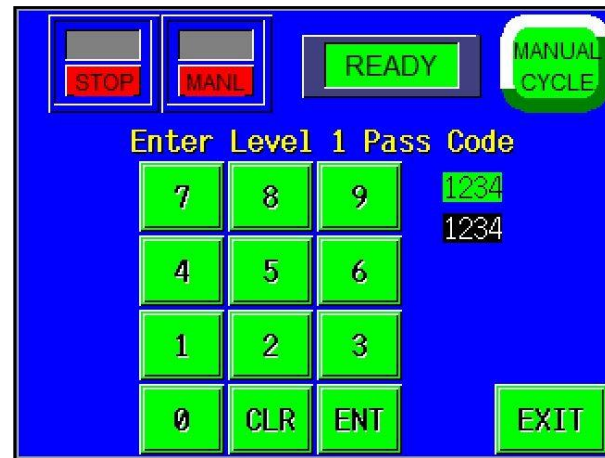

Figure 3-20
1. **Level 1:** This is the highest level pass code. The operator cannot access any of the Technical Assistance screens without first entering this code. The default pass code, when shipped from the factory, is 1001. To change this code, press the **Level1 PW** button on the Password Setup Screen, enter a new code on the numeric keypad, and press the **ENT** button. See Figure 3-20.